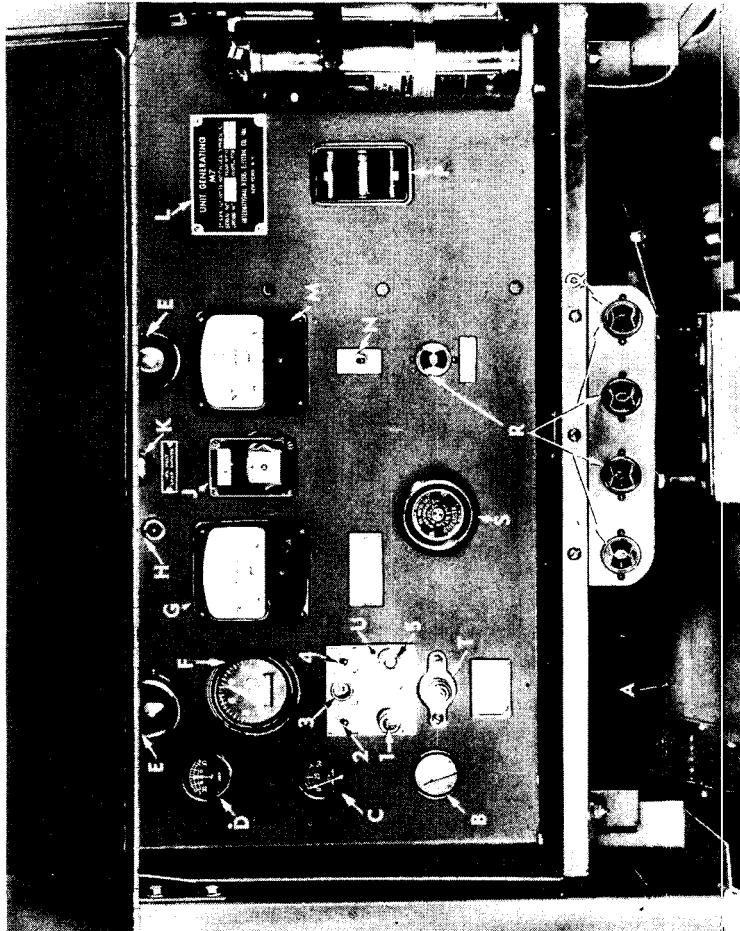

Figure 8—Instrument Panel
6. ENGINE AND GENERATOR CONTROLS (fig. 8).